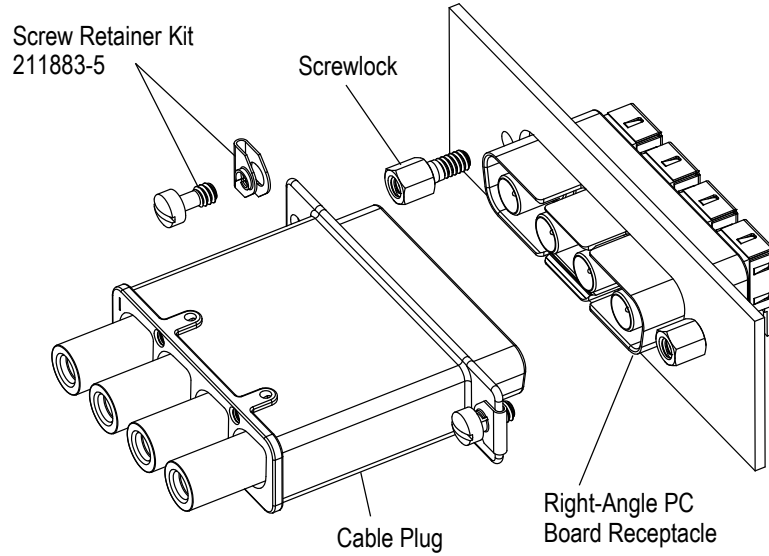

Figure 7
A. Assembling Screw Retainer Kit (211883-5) (Figure 7)
a. Right-Angle Receptacle (Figure 7)
- (1) Pass the screwlock through the panel and thread it into the threaded flange of the connector.